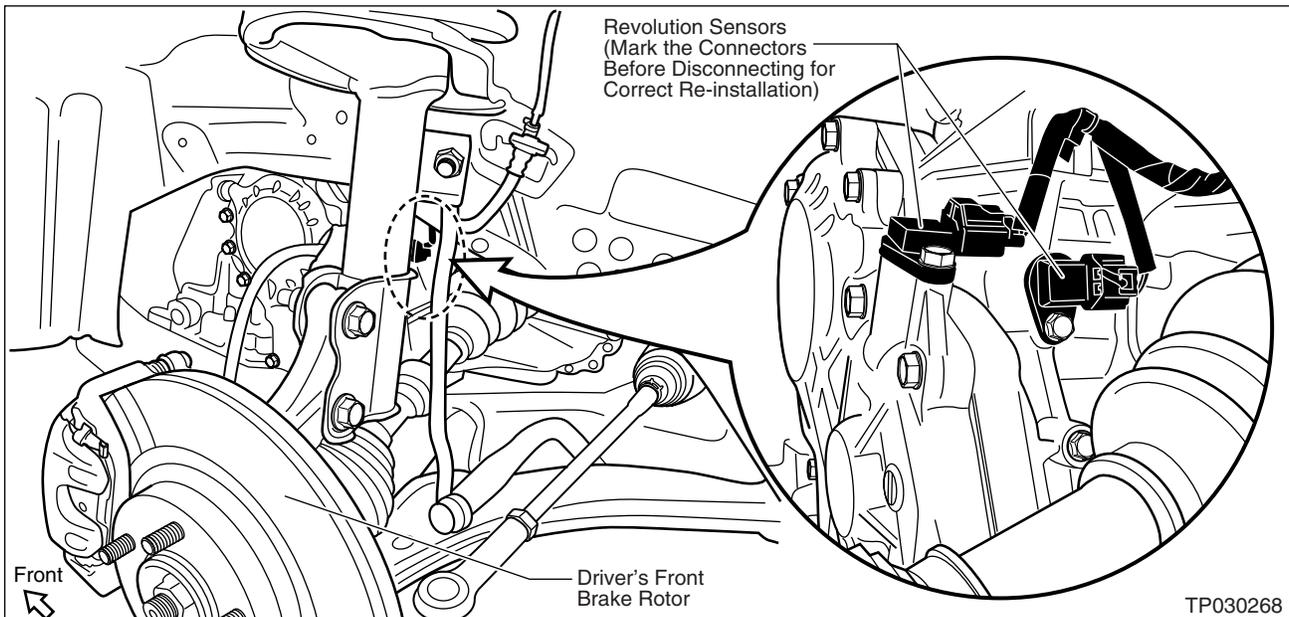

Figure H9
- Make sure you mark the A/T Revolution Sensor Wire Harness Connectors for proper re-installation (see Figure H9). If these connectors are “mixed up”, improper transmission shifting can occur.